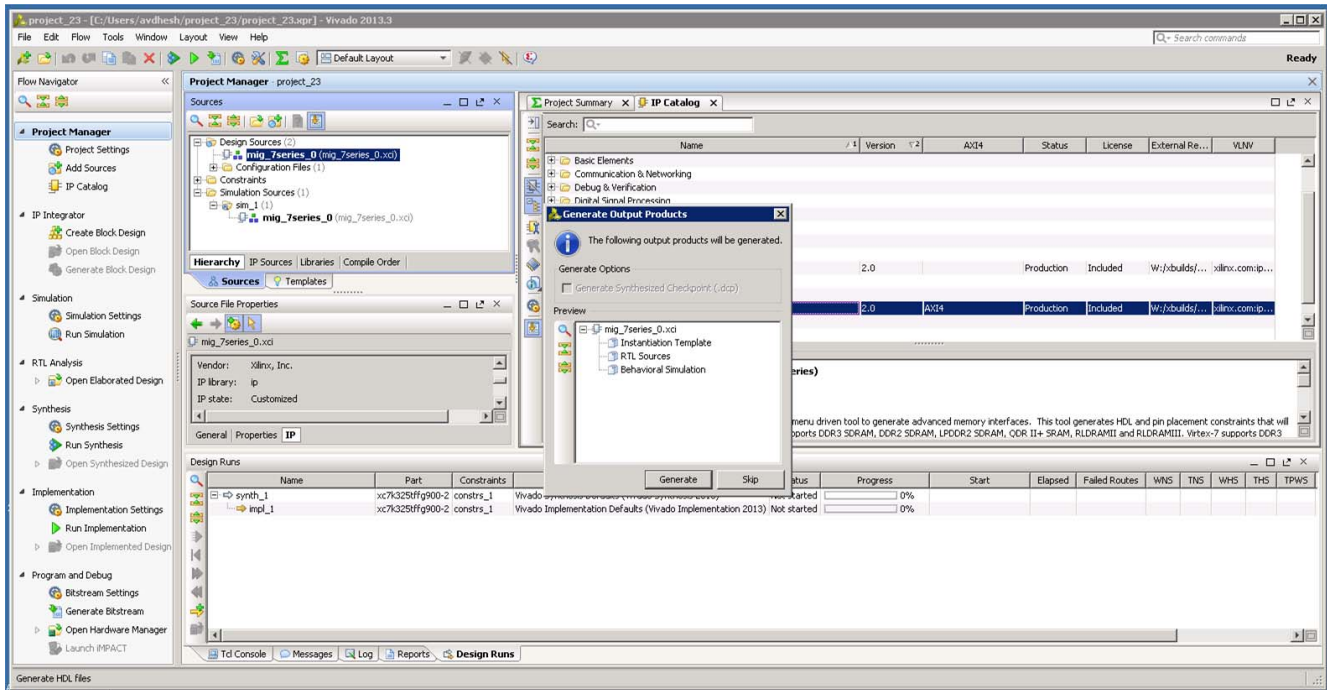

Figure 5-24: Generate Window
- Clicking **Generate Output Products** option brings up the **Manage Outputs** window (Figure 5-24).